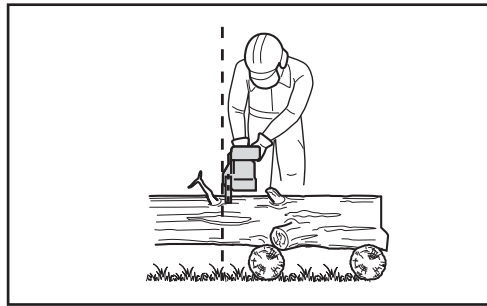

Fig. 17
2. Always hold the product firmly with both hands; front handle (3) with the left hand and rear handle (1) with the right hand. Fully grip both handles at all times during operation. Never operate the product using only one hand.
3. Only use the product with a secure stance. Hold the product at the right-hand side of your body (Fig. 17).